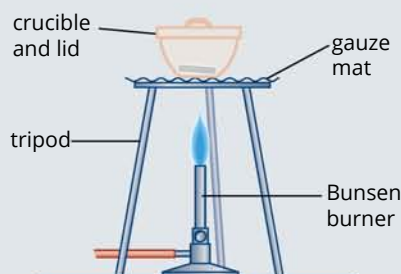

FIGURE 5.5.2 Equipment for finding the empirical formula of a metal oxide.
- 37** The empirical formula of a metal oxide can be found by experimentation as shown in Figure 5.5.2. The mass of the metal and the mass of the oxygen that reacts with it must be determined. Steps A–F form the experimental method.